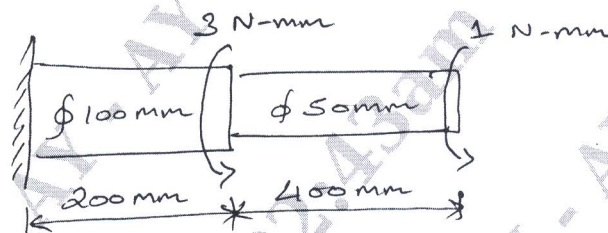

Fig.Q6(b)
b. A solid stepped bar of circular cross section shown in Fig.Q6(b) is subjected to a torque of 1 N-mm at its free end and a torque of 3 N-mm at its change in cross section. Determine the angle of twist and shear stresses in the bar. Take  $E = 2 \times 10^5 \text{ mm}^2$ . And  $G = 7 \times 10^4 \text{ N/mm}^2$ .